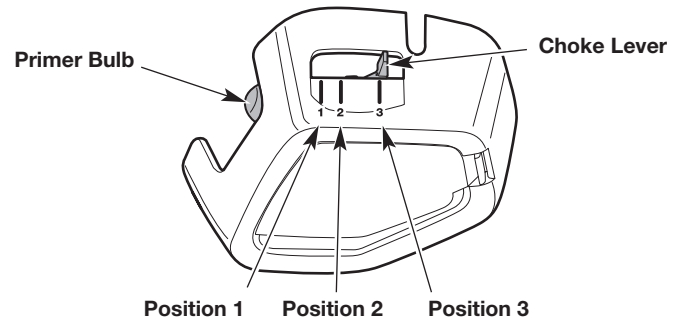

Fig. 15
1. Slowly press and release the primer bulb **10 times** (Fig. 15).
2. Move the choke lever to **Position 1** (Fig. 15).
6. Move the choke lever to **Position 2** (Fig. 15).
9. Move the choke lever to **Position 3** (Fig. 15). Allow the engine to warm up for an additional 60 seconds. The unit may be used during this time.